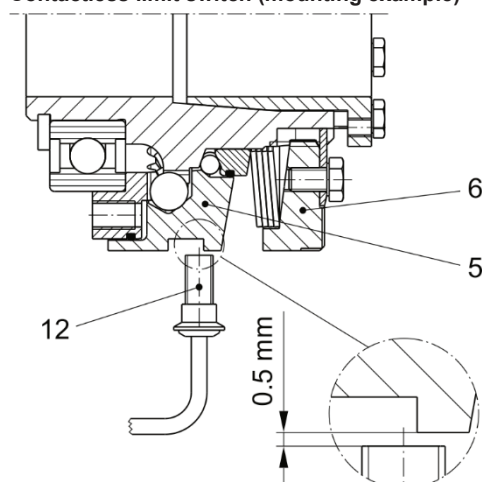

Fig. 16
The contactless limit switch is to be mounted onto the switching edge of the clutch (Fig. 16) so that no signal changes are caused during normal operation on the limit switch by the usual clutch run-out errors.
- ☐ Adjust the switch distance for the contactless Ex-limit switch acc. Fig. 16.